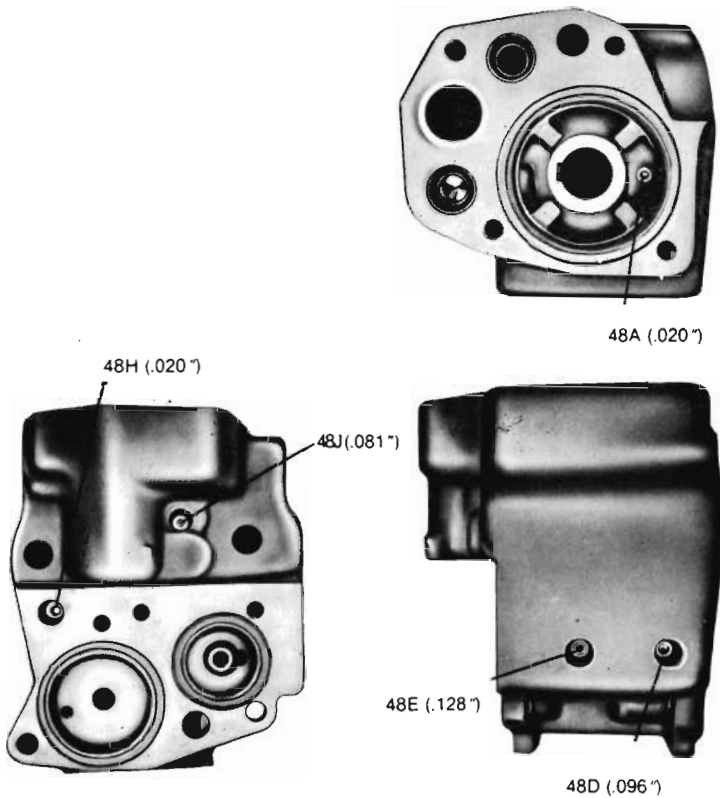

Figure 7
5.2 The emergency portion contains 5 choke plugs which govern the flow of air through the ports in which they are located (see Fig. 7).